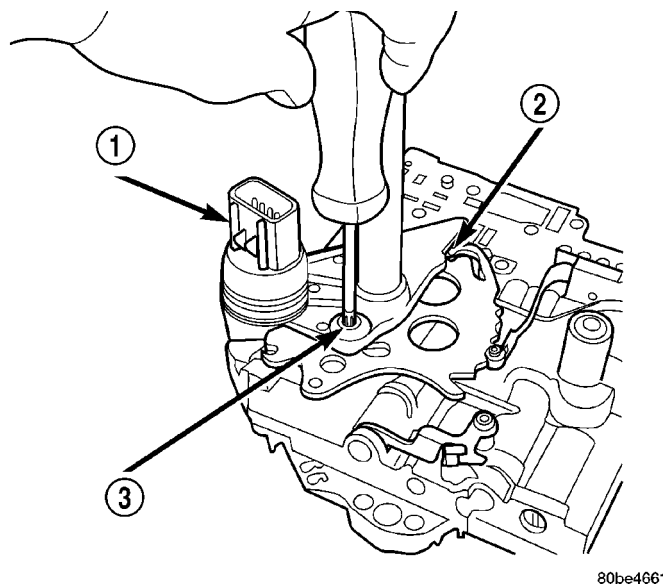

Fig. 309 Remove Transmission Range Sensor
(1) Remove valve body assembly from transaxle. (Refer to 21 - TRANSMISSION/TRANSAXLE/AUTOMATIC - 41TE/VALVE BODY - REMOVAL)
(2) Remove transmission range sensor retaining screw and remove sensor from valve body (Fig. 309).
(1) Install transmission range sensor (TRS) to the valve body and torque retaining screw (Fig. 309) to 5 N·m (45 in. lbs.).
(2) Install valve body to transaxle. (Refer to 21 - TRANSMISSION/TRANSAXLE/AUTOMATIC - 41TE/VALVE BODY - INSTALLATION)